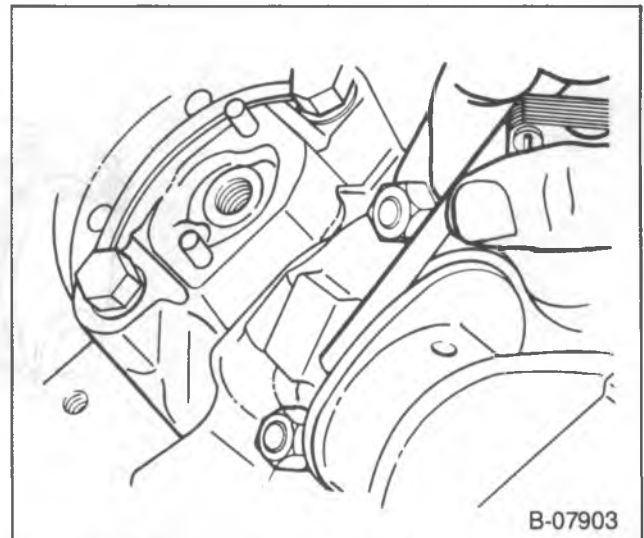

Figure 36—Measuring Connecting Rod Side Clearance
- Connecting rod side clearance (figure 36). The proper clearance is 0.006 to 0.014-inch.